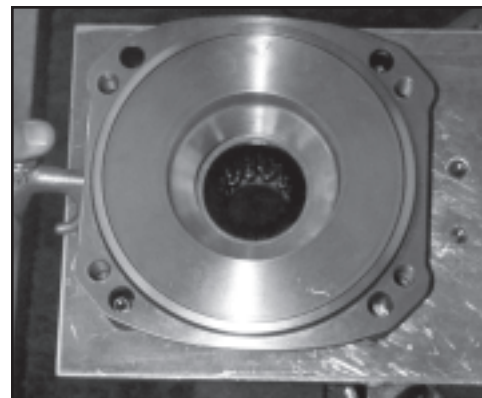
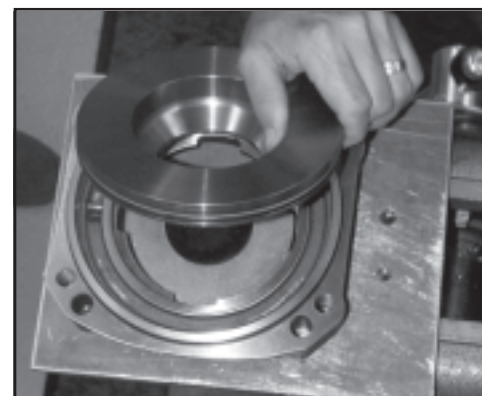

Figure D8
Figure D9
9. **DANGER.** Use extreme caution when removing the piston. Remove the piston from the brake assembly, cover the piston with a rigid restraint and apply low pressure air (10 - 20 psi) to the brake release port. The piston will slide up until released. To much pressure could cause the piston to blow out of its bore causing personal harm. SEE FIGURE D8 & FIGURE D9